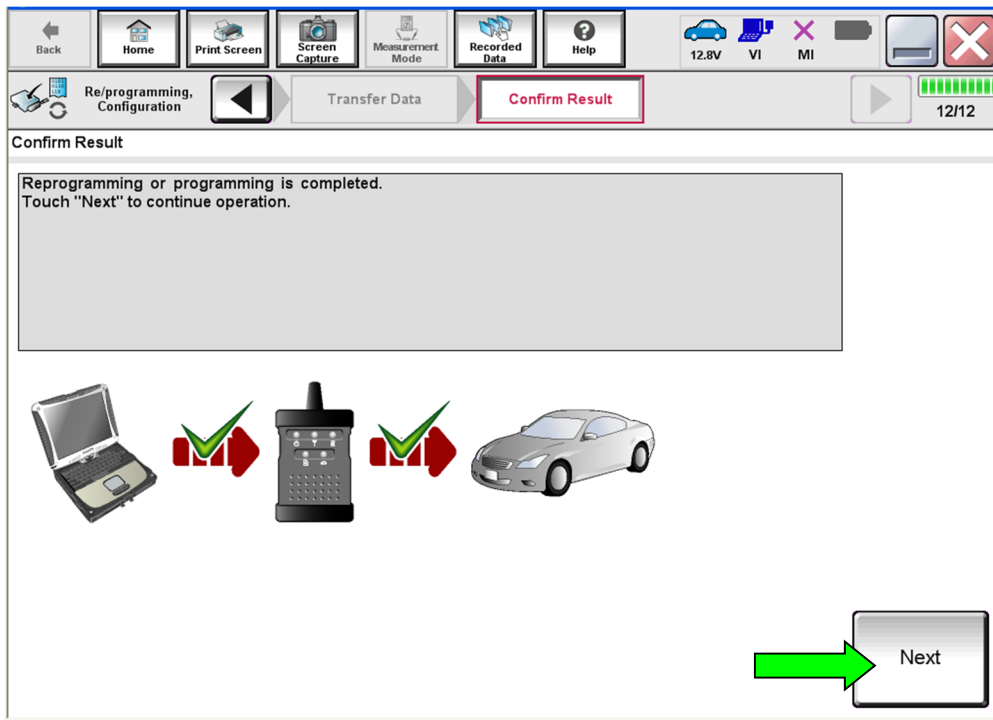

Figure 20
- 34. When the screen in Figure 20 displays, the reprogramming is complete.
HINT: If the screen in Figure 20 does not display (indicating that reprogramming did not complete), refer to **Laser/Radar Recovery** on the next page.